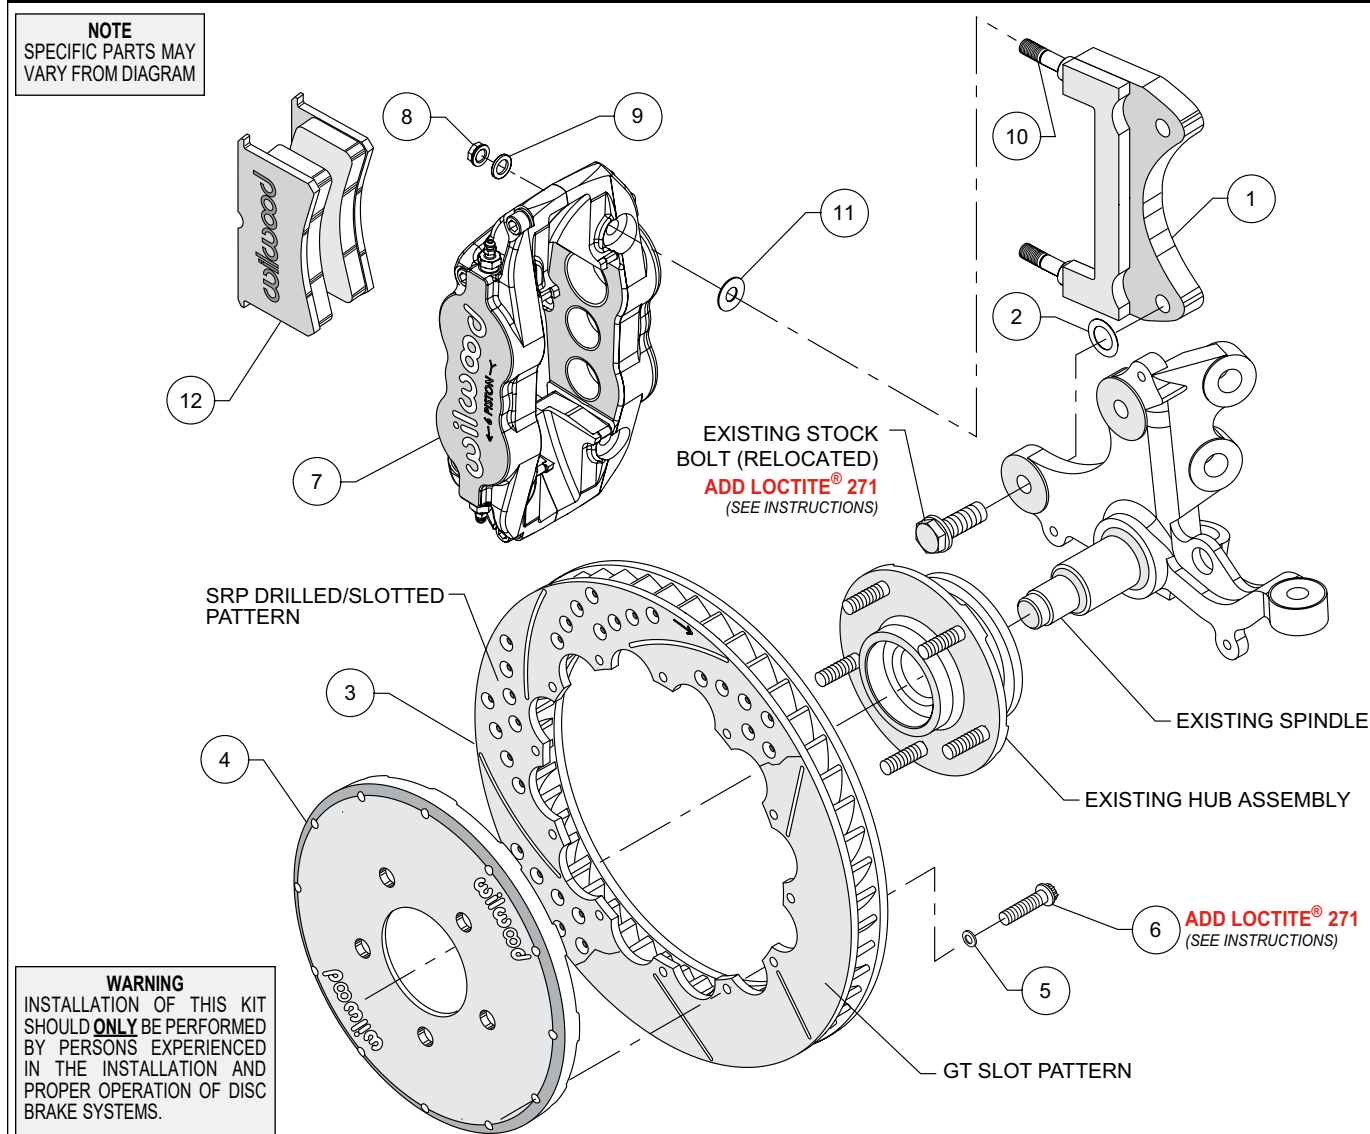
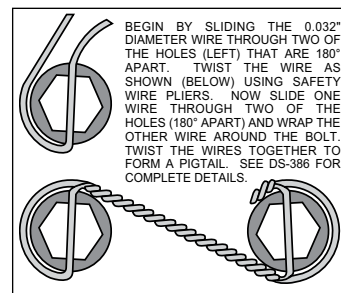

Figure 1. Typical Installation Configuration
Figure 3. Safety Wire Diagram
- The caliper mount bracket (1) should initially be installed with clean, dry threads on the mounting bolts. Orient the bracket as shown in Figure 1, and using stock bolts (Install the stock bolts from the near side, opposite from the way they were removed). Initially place one .033 thick shim (2) on each bolt between the bracket and upright, Figure 1. Temporarily tighten the mounting bolts. **NOTE: The bracket must fit squarely against the mount bosses on the upright.** Inspect for interference from casting irregularities, machining ridges, burrs, etc. Later, after the caliper alignment has been checked, the mount bolts will be secured using red *Loctite*® 271.
- Orient the rotor (3) and the hat (4) as shown in Figure 1 and Photo 1. Attach rotor to hat using bolts (6) and washers (5). Apply red *Loctite*® 271 to the bolt threads and torque to 155 in-lb using a criss-cross pattern. For an added measure of security, the bolts may be safety wired using standard 0.032 inch diameter stainless steel safety wire as shown in Figure 3. Please refer to Wilwood's data sheet DS-386 (available at www.wilwood.com/Pdf/DataSheets/ds386.pdf) for complete safety wire installation instructions.
- **NOTE:** This kit contains distinct right and left hand calipers that must be mounted in a specific direction, as described below. Initially place one .035" thick shim (11) on each stud (10) as shown in Figure 1 and Photo 2. Mount the caliper (7) onto the bracket (1) using lock nuts (8) and washers (9), Figure 1. Ensure that the caliper is mounted so that the largest pistons are at the rotor exit end of the caliper, in relation to the direction of rotor rotation. Temporarily tighten the lock nuts and view the rotor through the top opening of the caliper. The rotor should be centered in the caliper, Photo 3. If not, adjust by adding or subtracting shims (2) between the bracket and the upright. Always use the same amount of shims on each of the two mounting bolts. Once the caliper alignment is correct, remove the bracket mounting bolts one at a time, apply red *Loctite*® 271 to the threads, and torque stock bolts to 65 ft-lb.